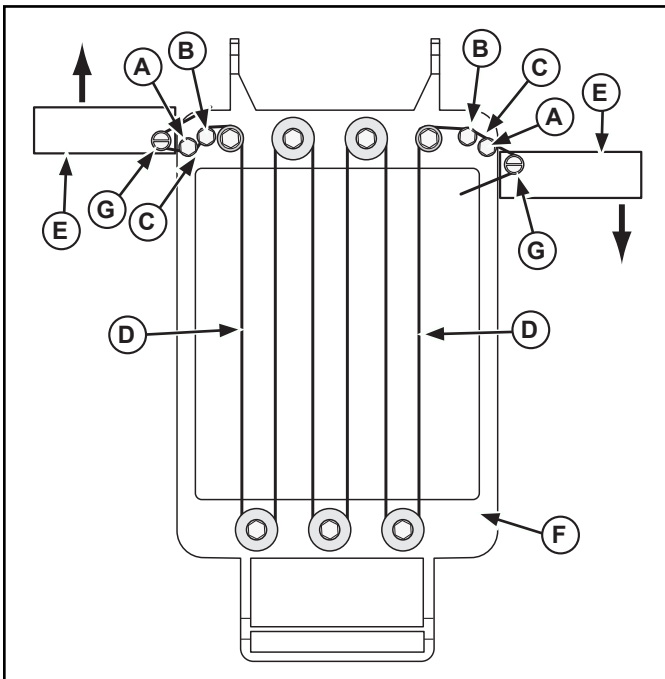

Figure 2. Replacing the Cutting Wire (3/4" Cut Model Shown).
1. Place the cutting bow (F) assembly in vise or clamp to a secure surface.
2. Loosen the cap screws (A and B) approximately one (1) full turn. See Figure 2.
3. Remove and discard old the cutting wire (D).
5. Leave approximately a 4" (10.2 cm) tail of new cutting wire (D) route to the (C) side and snug the screw (B).
6. Wearing leather or other abrasion resistant gloves route wires as shown in Figure 2. Pulling snugly during the routing process. (Use the same pattern for the 3/8" cut models).
7. Place new cutting wire (D) on the side (C) and secure the loose end of the cutting wire using screw (B).
8. Place the tension tool (E) on the edge of the cutting bow (F) as shown.
9. Wrap the cutting wire (D) around the screw (G) and tighten.
10. Slightly loosen screw (B) and slowly rotate the tension tool (E) in the direction shown. Tighten the screw (B).
11. Wrap cutting wire (D) 3/4 of the way around screw (A)
12. Tighten screw (G) and cut or break cutting wire (D) by wiggling it.
13. On the other edge of the cutting bow place the tension tool (E) on the edge of the cutting bow (F) as shown.
14. Wrap the cutting wire (D) around the other screw (G) and tighten.
15. Slightly loosen screw (B) and slowly rotate the tension tool (E) in the direction shown. Tighten the screw (B).
16. Tighten screw (G) and cut or break cutting wire (D) by wiggling it.